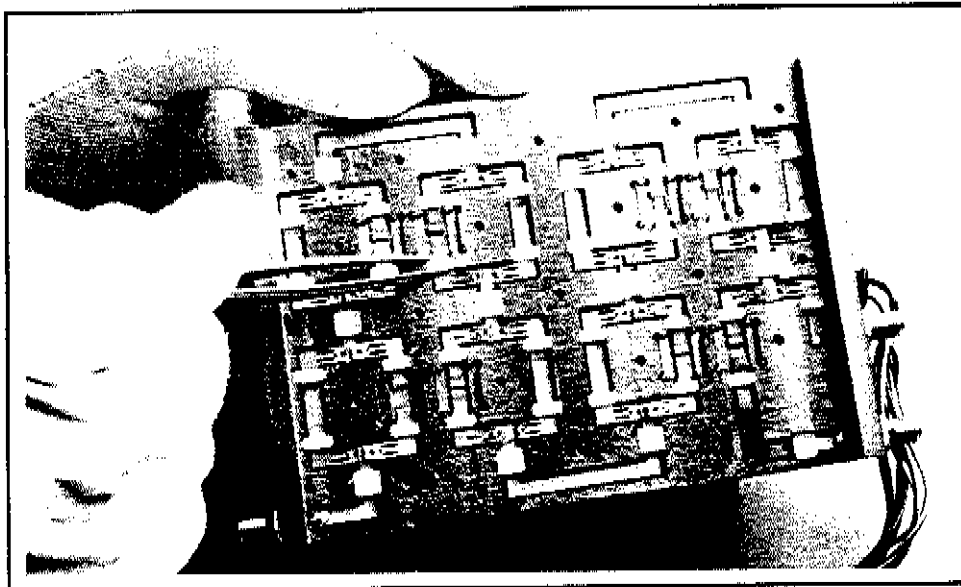

Figure 8-N-8. Attenuator Pad Removal (1).
- c. Grasp one of the molded plastic spacers with the tweezers (see Figure 8-N-8). More control over the removal can be gained by pivoting the tweezers on the attenuator body.